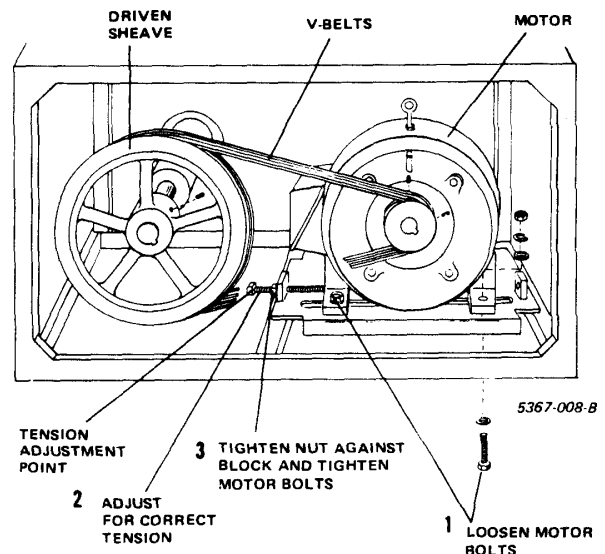

Figure 5-14. V-Belt Tension Adjustment
3. Loosen the motor mounting bolts and V-belt tightening screws (see Figure 5-14). Remove the V-belts.